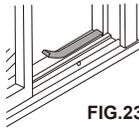

FIG.23
**26 Peel off the protective backing** from the track seal, and stick the seal to the window sill on the outside of the bottom jamb as shown (FIG.23).